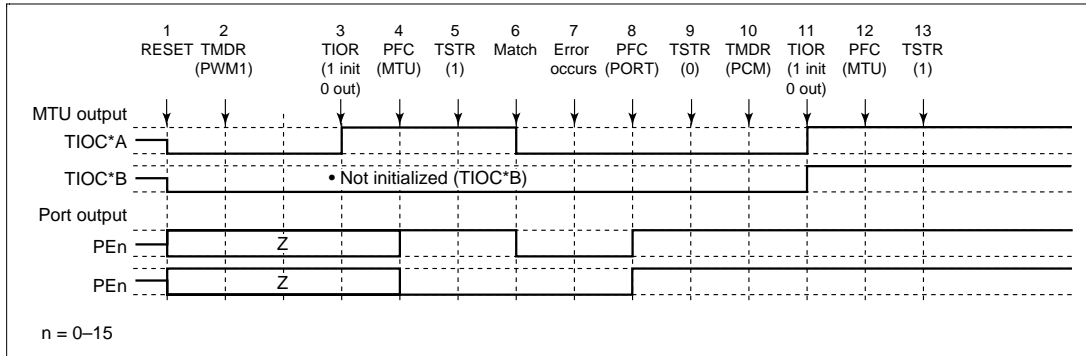

Figure 10.68 Error Occurrence in PWM Mode 1, Recovery in Phase Counting Mode
(8) Operation when Error Occurs during PWM Mode 1 Operation, and Operation is Restarted in Phase Counting Mode: Figure 10.68 shows an explanatory diagram of the case where an error occurs in PWM mode 1 and operation is restarted in phase counting mode after re-setting.